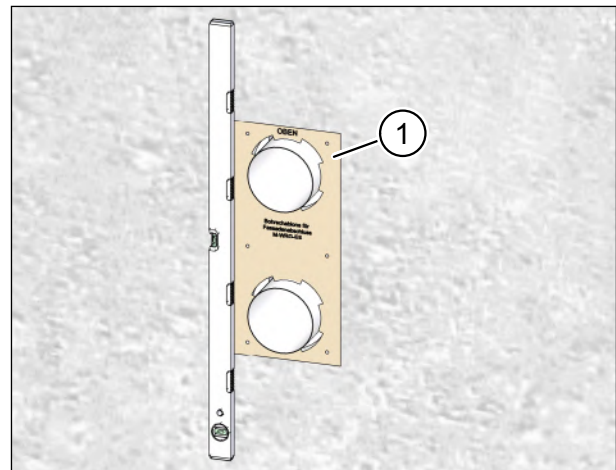

Fig. 15: Ventilation pipes on the external wall
- ▶ Push the drilling template for the outer wall terminal (item 1 in Fig. 15) over the ventilation pipes on the external wall.